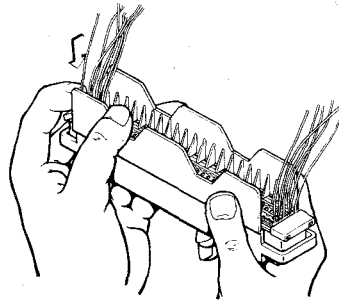

Fig. 44—Snap latches.
3. Snap latches on ends of sealant box to lock module into place. See Figure 44.